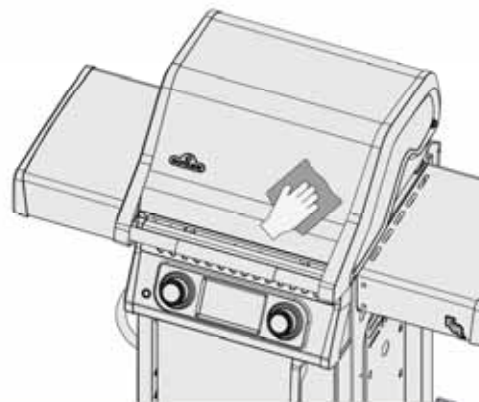

Fig. 9
- Always wipe in the direction of the grain. (Fig. 9)